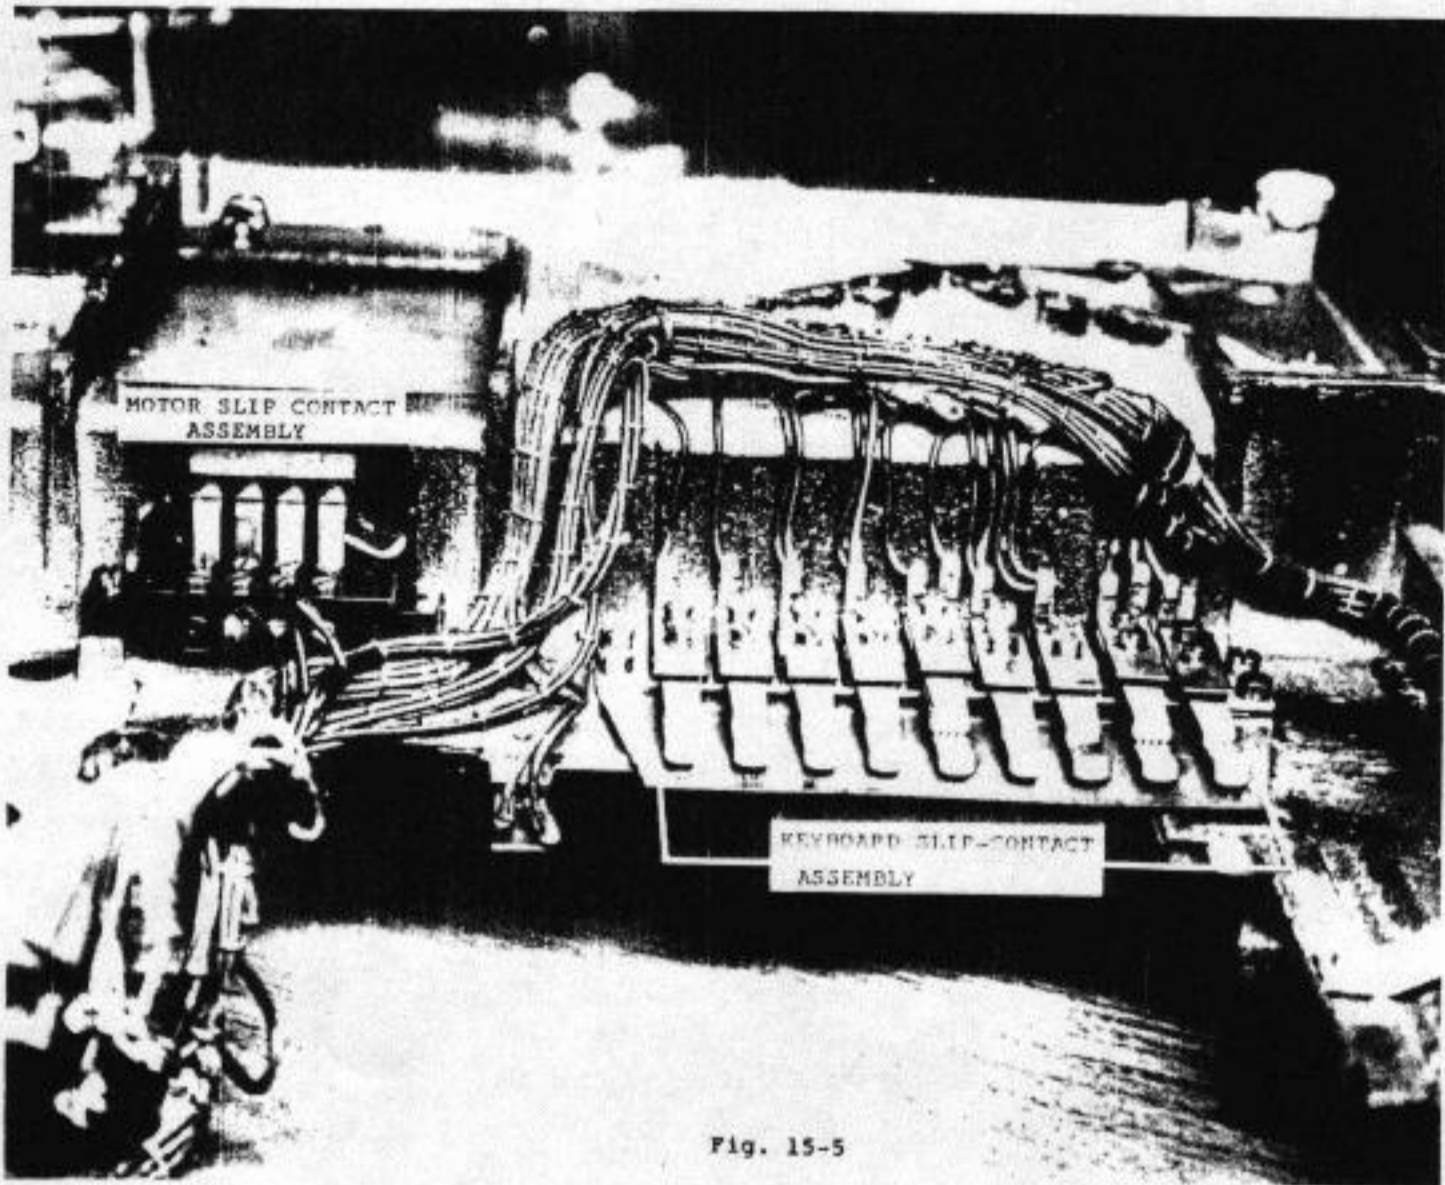

Fig. 15-5
6. Turn the base upside down. There is a maze of old wires inside. TAKE IT ALL OUT. Remove the wire clamps. Unsolder all connections going to the keyboard and motor slip-contact assemblies. Pull the old wires out through the various holes. Cut through the cabling going through a large hole to the rear deck of the base. Fig. 15-5.